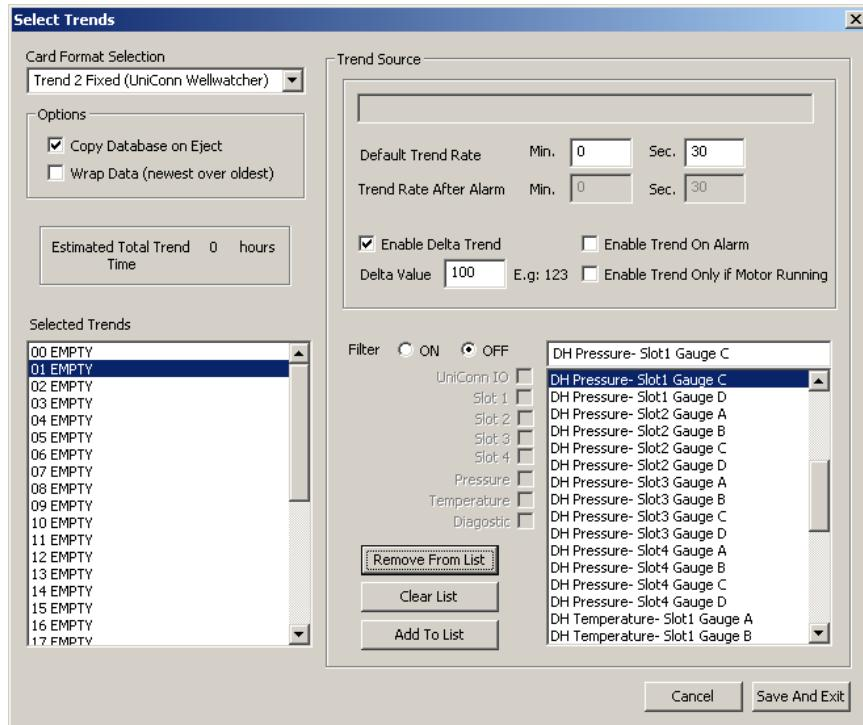

Figure 11-16: Trend Editor
3. Notice the **Select Trends** dialog will be displayed (Figure 11-16).